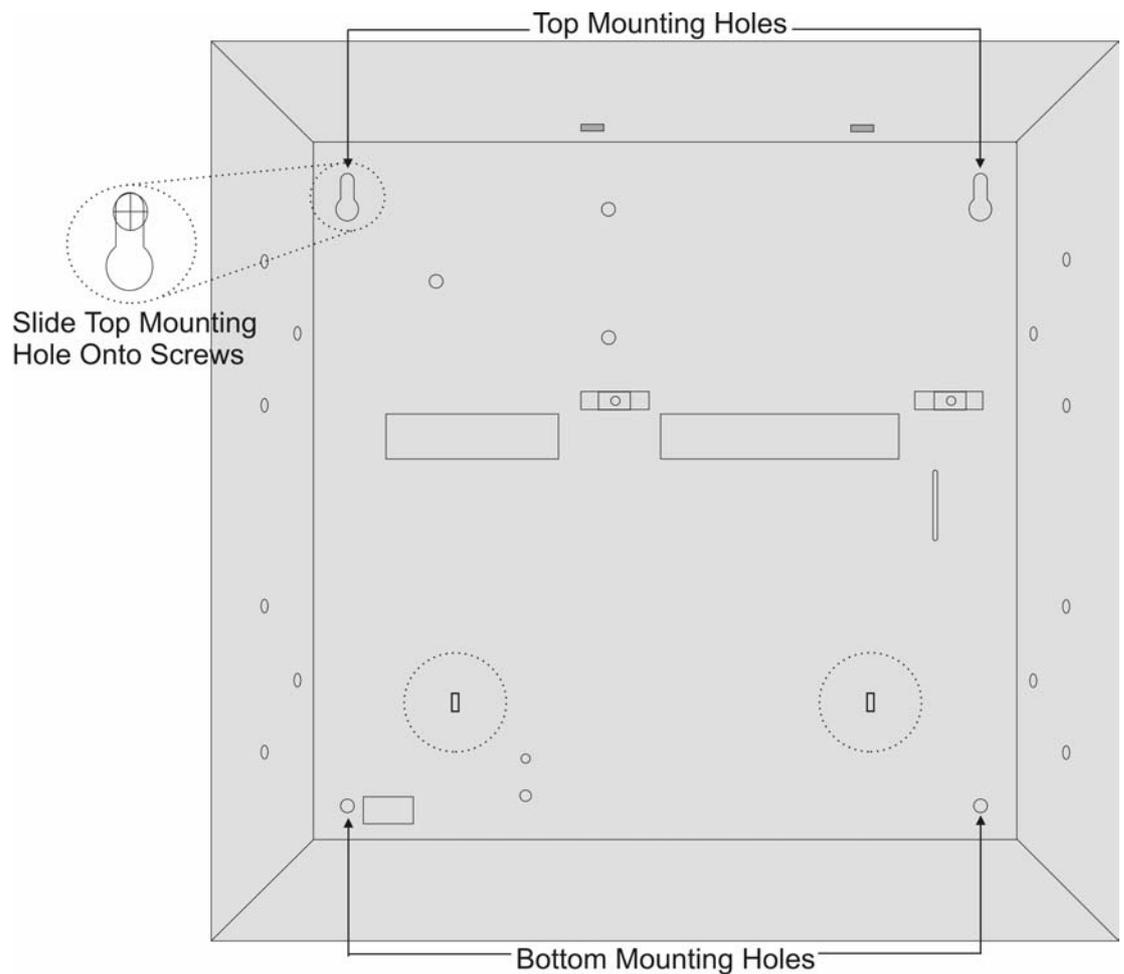

Figure 3: Enclosure Mounting Hole Locations
3. Pre-start the mounting screws (not supplied) for these holes and slide the enclosure onto these mounting screws so that the screws move up into the thinner section of the holes (See Figure 3).
5. Screw in the remaining two screws into the bottom mounting holes (see Figure 3).